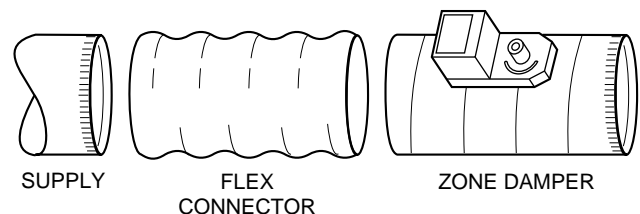

Fig. 4—Round Metal Ductwork
2. Slip end of flex connector over zone damper and use self-tapping sheet metal screw to secure. (See Fig. 4.)